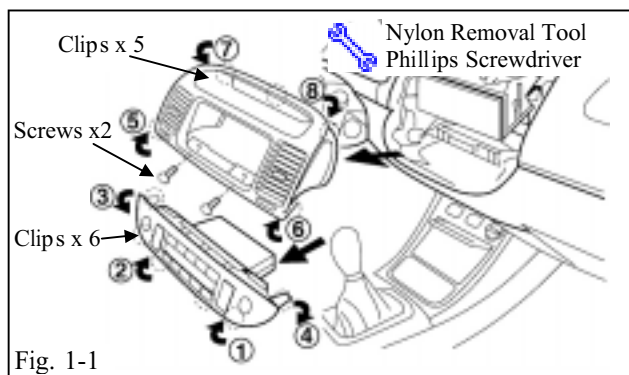

Fig. 1-1
(1) For sunroof fitted North American built 2005MY Camry vehicles, do NOT disconnect battery within 10 seconds of shutting off the ignition switch. This will remove the need to reset the sunroof later.
- (d) Use panel removal tool to disengage clips at positions 1 and 2, in numerical order shown to the switch unit. Next remove positions 3 and 4. (Fig. 1-1)
- (e) Use panel removal tool to disengage clips at positions 5 and 6, in numerical order shown to the center cluster. Next remove positions 7 and 8. (Fig. 1-1)